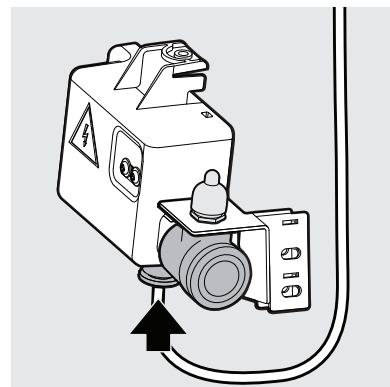

Figure 18
22. Plug the green water tube from the icemaker into the bottom outlet of the water valve. The tube should be pushed into the valve up to the black line marked on the tube. See Figure 18.